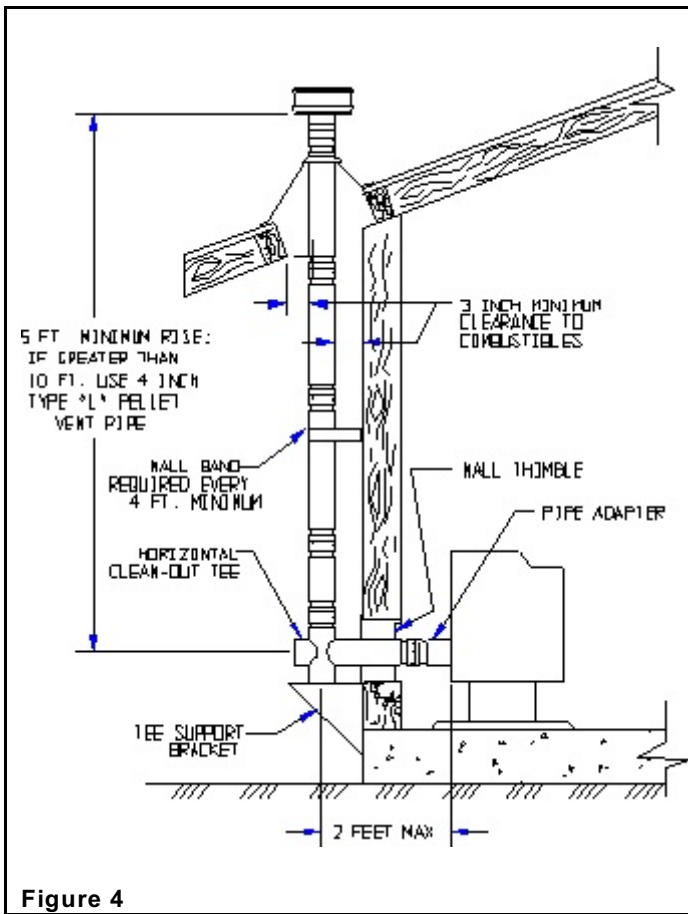

Figure 4
1. When exiting through the wall with your type L Pellet vent pipe, you may go straight out through a wall thimble. You must connect a pellet vent tee at this point and extend the vent pipe at least **5'** (five feet) vertically outside to provide good draft and allow the gases to exit. The tee must have a clean out cap for inspection and regular cleaning (**Figure 4**). Horizontal runs must be limited to **2'** (two feet). A wall band is required for every **4'** (four feet) minimum on a vertical run at an exterior wall.